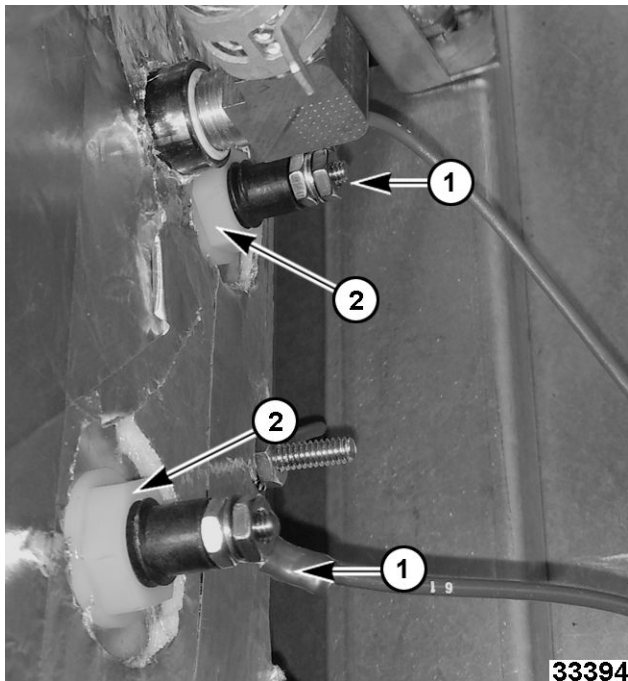

Fig. 47
3. Remove nuts (1, Fig. 47) holding wire terminals on probes.
4. Remove nylon nut (2, Fig. 47) on back of probe.